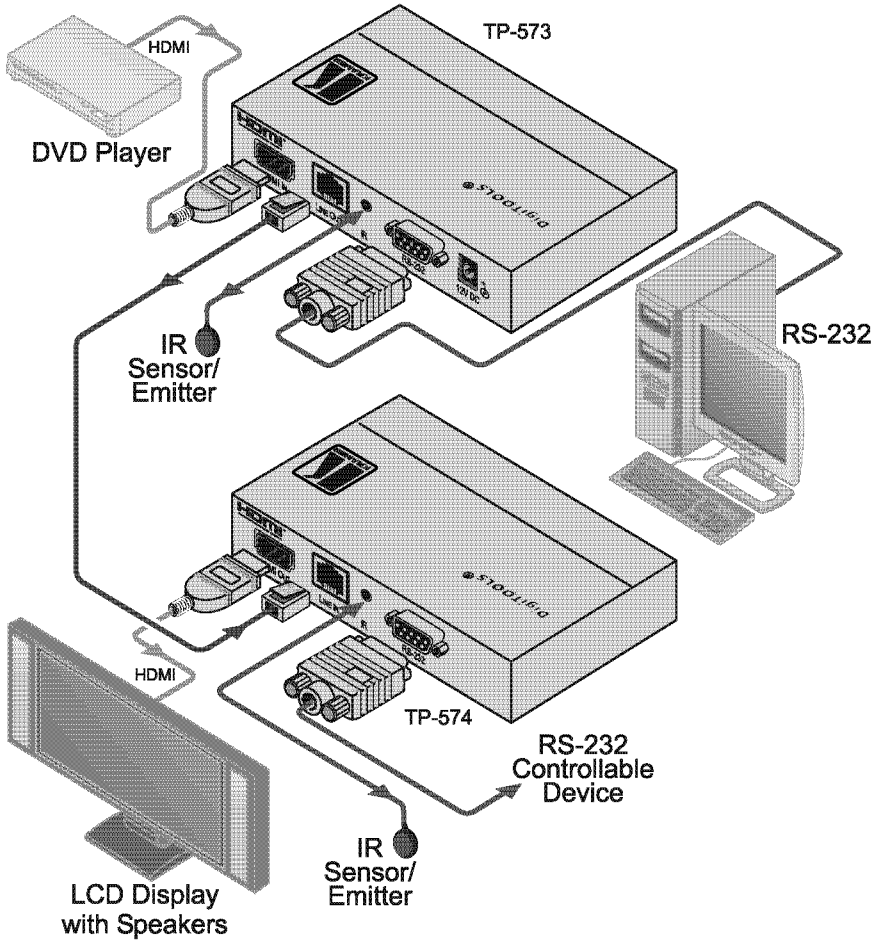

Figure 3: Connecting the TP-573/TP-574 Transmitter/Receiver
To connect the **TP-573** to the **TP-574**, as illustrated in the example in Figure 3, do the following:
5. The 12V DC power supply to the **TP-573** (not shown in Figure 3).